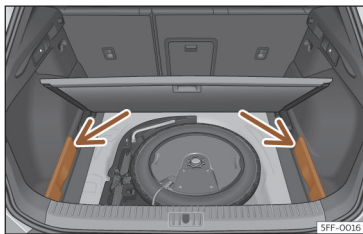

Fig. 175 In the boot: covers for storing the rear shelf.
- Remove the left and right covers >>> **Fig. 175**.